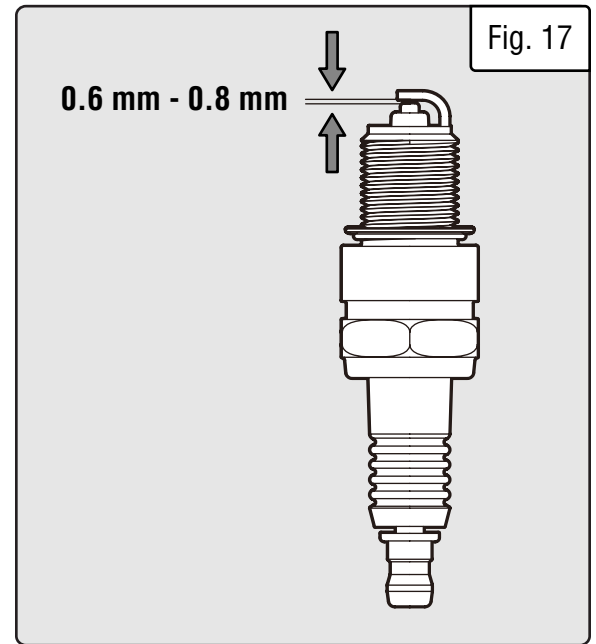

Fig. 17
6. Measure the plug gap with a wire gauge (Fig. 17). The gap should be 0.6 mm - 0.8 mm. Carefully adjust the gap if necessary.